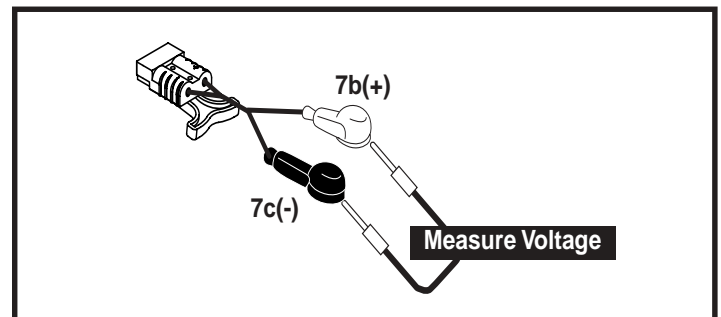

Figure 6. Connectors 7b and 7c
8. Measure voltage across connectors 7b and 7c. **See figure 6.**
- If your multimeter indicates greater than 0VDC, then replace the rear battery harness (7) and retest system.